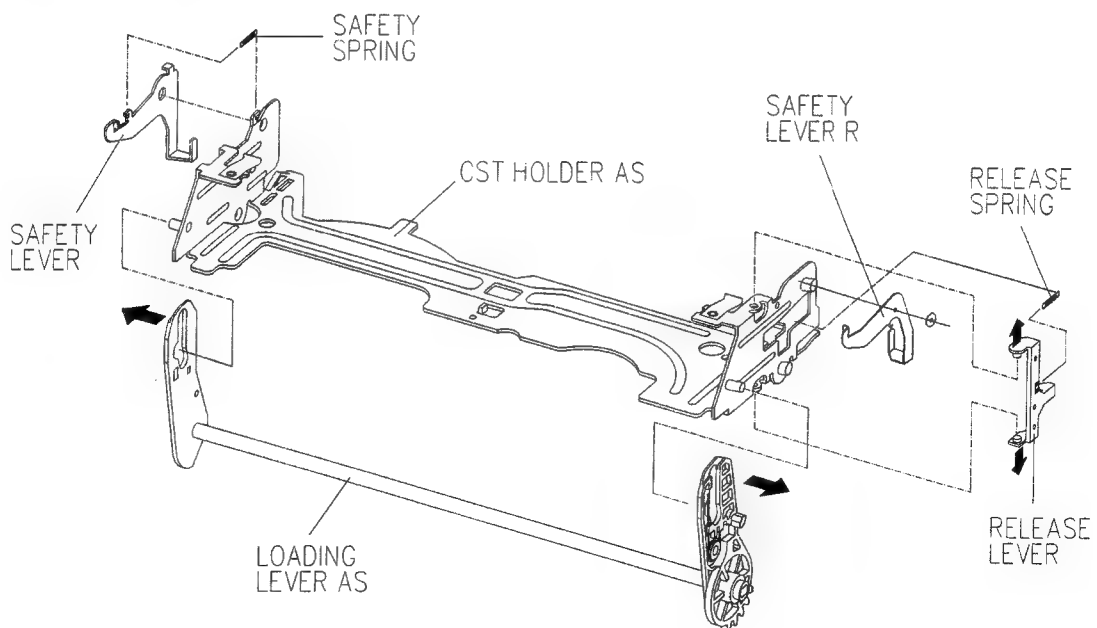

Fig.3-5 DISASSEMBLY OF THE CASSETTE HOLDER ASS'Y
f. Remove the LOADING LEVER ASSEMBLY by pressing the connected section of the loading lever assembly in the directions of the arrows. (Fig. 3-5)
g. Remove the SAFETY SPRING between the SAFETY LEVER and the CASSETTE HOLDER PLATE. (Fig. 3-5)
h. Remove the RELEASE SPRING between the RELEASE LEVER and the SAFETY LEVER R. (Fig. 3-5)